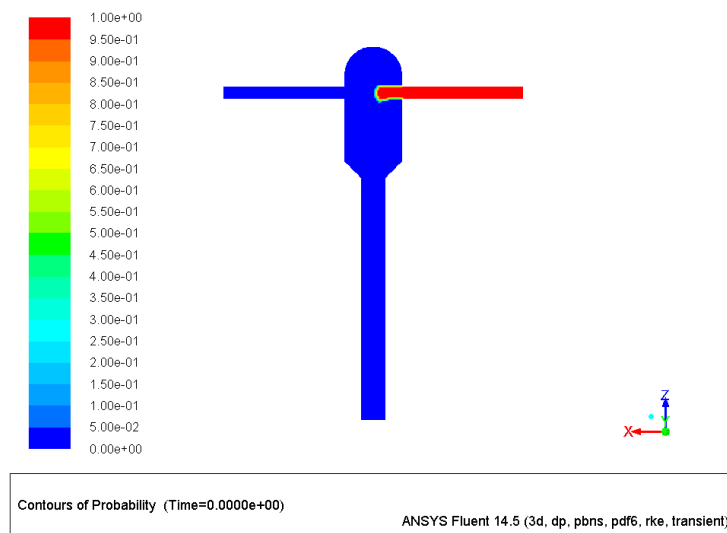

Figure 8: Contours of Probability
- (c) Click Display (see Figure 8).